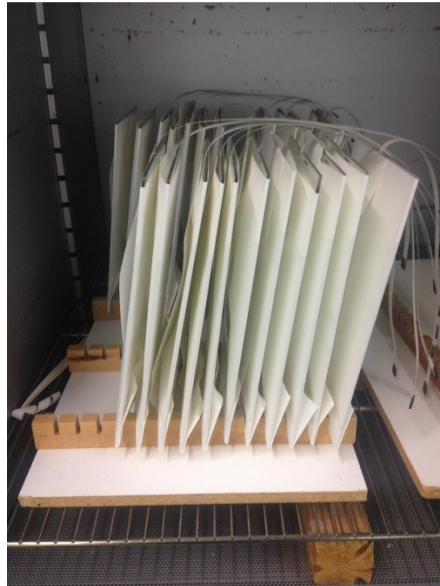

Figure 1 – Sensors in Slotted Trays
- It is recommended to place the sensors vertically in slotted trays with the cables easily accessible, making sure to separate the sensors with a small gap to allow air to circulate between them. Ensure the back sides of the sensor lean against the top edges of the slots; no hard surfaces should press against the touch screen surface (see Figure 1).